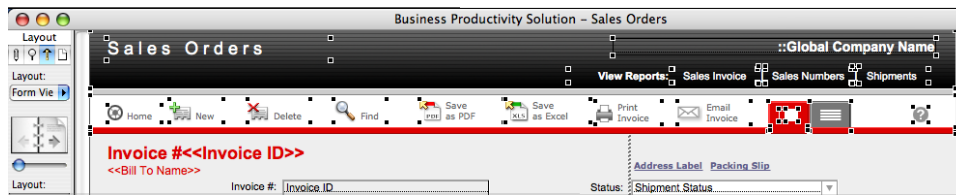

Figure 11: Highlighting elements on the Sales Order
- b. In Layout mode, select and copy the entire section at the top, from the black background down to the red bar. In Figure 11, all of the elements are selected. Note: The easiest way to select all of the objects is to click and drag, starting about a quarter inch below and to the right of the red bar.